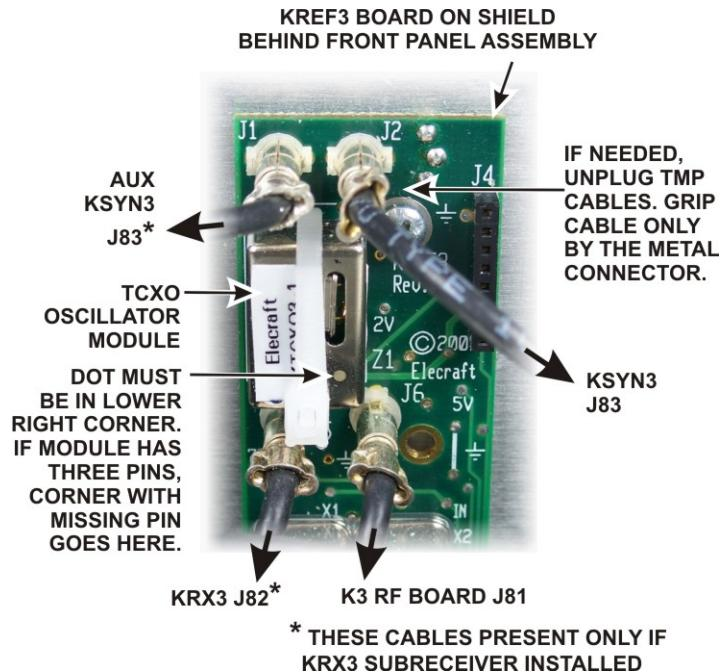

Figure 2. TCXO Module Installed on KREF3 PC Board.
- Locate the KREF3 circuit board. It is mounted against the metal shield running across the width of the K3 near the front panel (see Figure 2).
- Install the 1 ppm TCXO oscillator module with one pin in each corner connector on the socket and the dot in the lower right as shown in Figure 2. If the new module has only three pins, the corner with the missing pin is the one with the colored dot and goes in the lower right. The insulator installed in the previous step should be between the oscillator module and the socket on the KREF3 board.
- If you removed the black TMP cables to install the oscillator module, replace them as shown in Figure 2